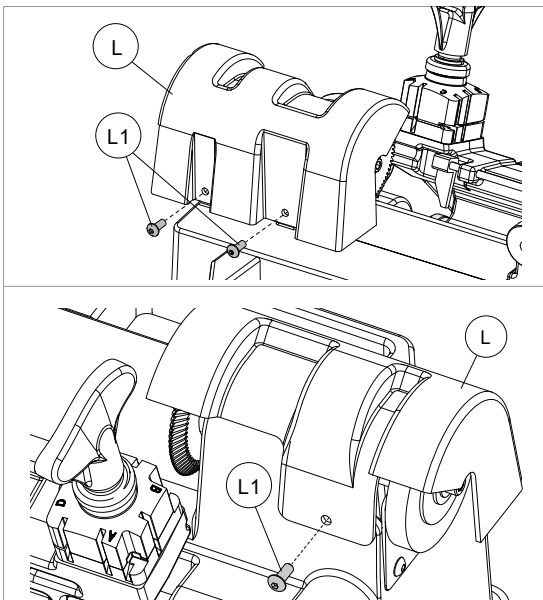

Fig. 49
- 1) Remove the cover (L) by loosening the 3 screws (L1) (Fig. 49).